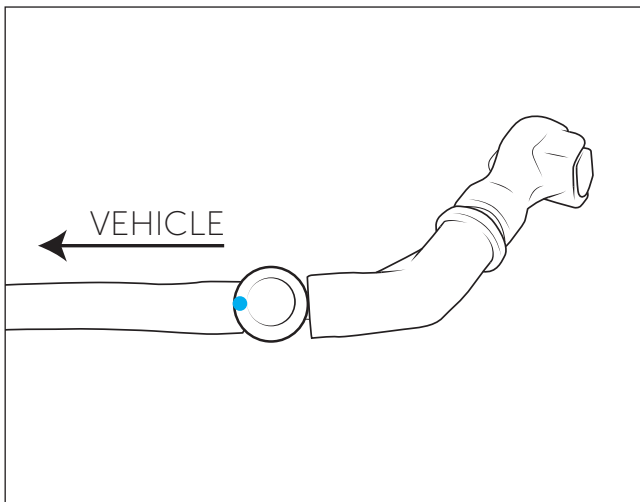

Figure 4
- D. Mark the 1-way valve washer line to show proper orientation in vehicle (fig. 4). Mark the side toward the nozzle for easy identification later. Reinstalling it backward will prevent fluid flow to the washer nozzle. Unclip the hose from the radiator support bar (fig. 5) and snake it through the radiator support and remove it completely. Save the 1-way valve and the rear quick connect. The rest will be discarded.